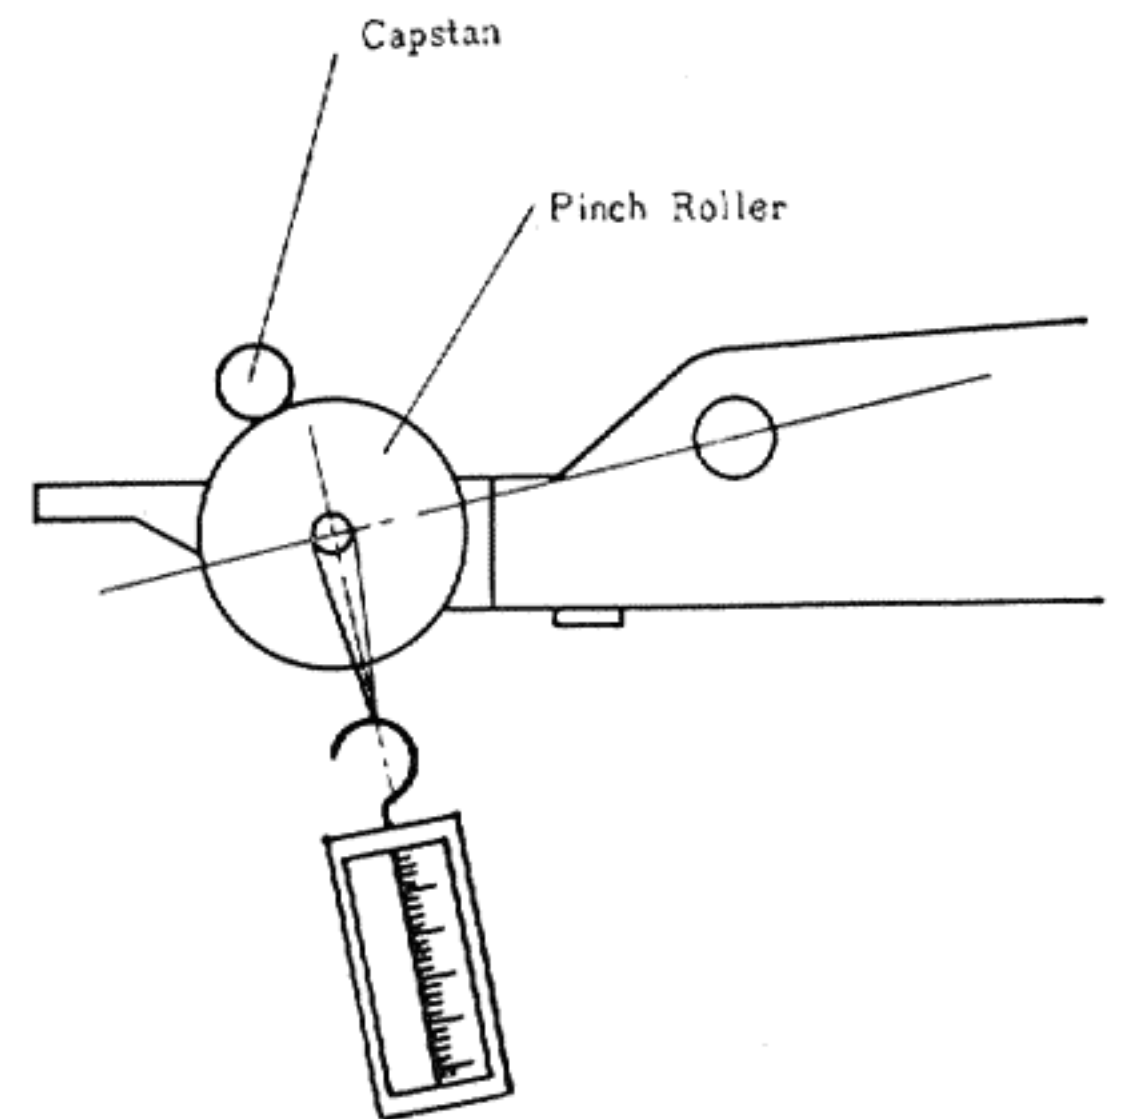

Fig. 7
(1) Pinch Roller Pressure (Fig. 7)
Measure it with spring gauge as shown in Fig. 7 after making the set PLAY state.